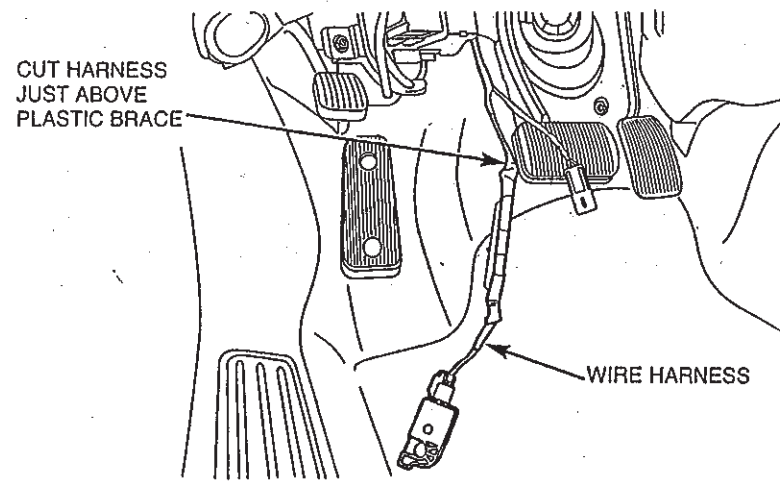

FIGURE 2
3. Cut off the stop lamp harness at the plastic brace and discard the switch and harness (refer to Figure 2).